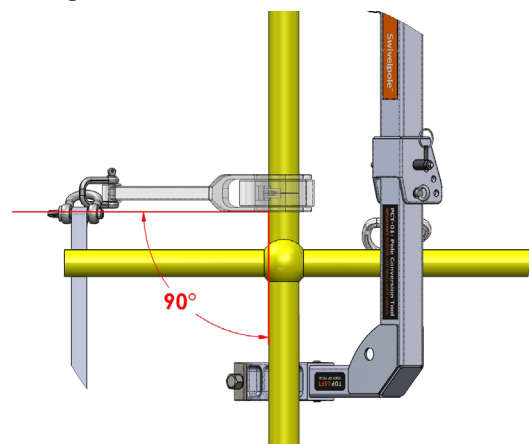

Fig 11
- Holding the ratchet pipe cutter horizontally, cut the pole using a 90-degree cutting motion. Avoid any downward pressure when cutting, as this could break the blade. (Fig 11)